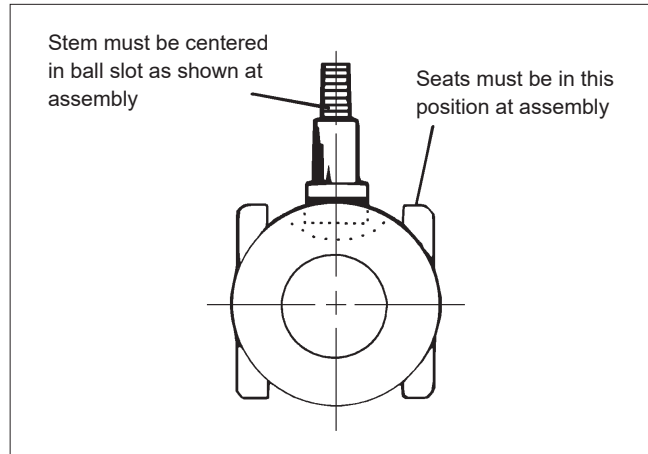
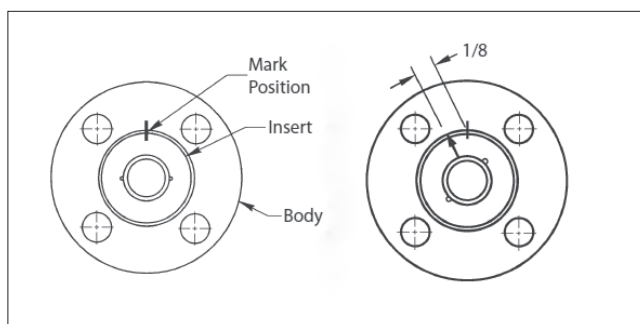

Figure 7. Proper Seat and Ball Orientation
Figure 11. Insert Installation
4. Carefully clean and polish the ball (3) sealing surface: It should be free of all scratches and grooves.
6. With the body insert side facing up, slide one valve seat (5) sideways into the body (1) to below the stem bore, and tilt it into place so that the proper surface (see **Figure 7**) will be adjacent to the ball (3), being careful not to cut or scratch the seat.
11. Screw the insert (2) into the body until it is fully down, and then mark its position as shown in the left view of (**Figure 11**). Counting the number of turns, remove the insert.
12. Place the valve in a vertical position, insert end up, on a clean soft surface such as a folded rag or a piece of cardboard. If the valve has grounded option, insert bottom grounding spring (71) into hole at the bottom of the stem (4). Insert the ball (3) rotating it onto the stem (4) in the closed position. If necessary, turn the stem blade to align with the ball slot. Make certain that the stem blade is in the middle of the ball slot; i.e. equal distance from the ends of the slot. Rotate the ball if necessary (see **Figure 7**).
13. Place the second seat (5) into the insert (2) with the proper surface (see **Figure 7**) adjacent to the ball.
14. Insert the body seal (6) into the body, and gently press it into the groove.
15. Apply a lubricant compatible with the flow media to the threads of insert (2) and screw the insert into the body. The tightening of the insert should be done using the insert field wrench. The insert must be tightened the same number of turns as in Step 12, insuring that the marks are no more than 1/8" (3.18 mm) apart, as shown in right view of (**Figure 11**).
17. Replace top grounding spring (70) and retaining ring (72) to stem (4).
16. Place the stud nut (30) on each stud (29) and tighten nuts a few turns alternately so that the compression plate (20) remains parallel with the body bonnet. Do not fully torque down stud nuts (30) at this time.
17. Insert the *Emission-Pak* subassembly into the body, being careful not to damage the *Emission-Pak* housing seals. A lubricant, compatible with the flow media, **MUST** be applied to the stud (102) threads and the face of the nut (111).
19. Once metal to metal contact has been achieved, tighten the nuts (111) to the torque values in (**Table 4**). Apply the torque evenly in a crisscross pattern.
20. Screw the insert (2) into the body until it is fully down, and then mark its position as shown in the left view of (**Figure 11**). Counting the number of turns, remove the insert.
21. Place the valve in a vertical position, insert end up, on a clean soft surface such as a folded rag or a piece of cardboard. If the valve has grounded option, insert the bottom grounding spring (71) into the hole at the bottom of the stem (4). Insert the ball (3) rotating it onto the stem (4) in the closed position. If necessary, turn the stem blade to align with the ball slot. Make certain that the stem blade is in the middle of the ball slot; i.e. equal distance from the ends of the slot. Rotate the ball if necessary (see **Figure 7**).
22. Place the second seat (5) into the insert (2) with the proper surface (see **Figure 7**) adjacent to the ball.
23. Insert the body seal (6) into the body, and gently press into the groove.
24. Apply a lubricant compatible with the flow media to the threads of insert (2) and screw the insert into the body. The tightening of the insert should be done using the insert field wrench. The insert must be tightened the same number of turns as in Step 20, insuring that the marks are no more than 1/8" (3.18 mm) apart, as shown in right view of (**Figure 11**).
25. While pulling the stem (4) outward, tighten the hex nuts (30) to the torque values in (**Table 2**). Apply the torque evenly, alternating between the two nuts so that the compression plate (20) remain parallel with the *Emission-Pak* housing bonnet.
27. Replace top grounding spring (70) and retaining ring (72) to stem (4).